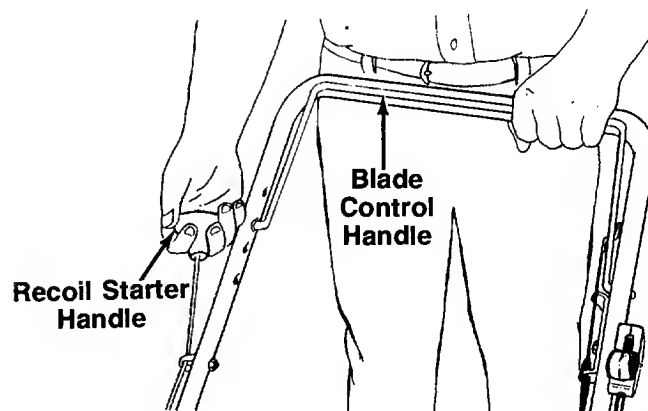

FIGURE 11.
5. Standing behind the unit, depress the blade control handle and hold it against the upper handle as shown. See figure 11.